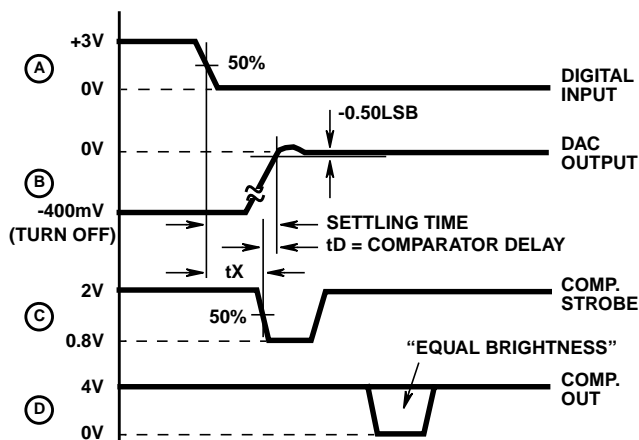

FIGURE 5B.
As shown in Figure 5B, settling time equals tX plus the comparator delay (tD = 15ns). To measure tX,
- Adjust the VLSB supply for 50% triggering at COMPARATOR OUT. This is indicated by traces of equal brightness on the oscilloscope display as shown in Figure 5B. Note DVM reading.
- Switch to LSB to Pulse (P)
- Measure tX from scope as shown in Figure 5B. Settling time equals tX + tD, i.e. tX + 15ns.